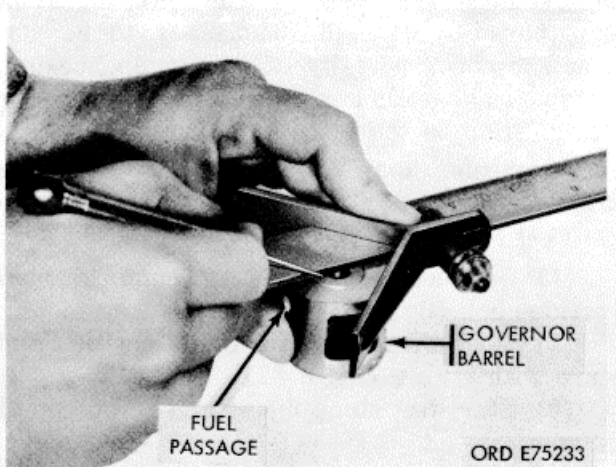

Figure 3-85. Scribing governor barrel.
(4) To locate a new governor barrel in the housing, scribe a center line on barrel and housing, lining up the fuel passages to prevent fuel flow restriction (fig. 3-85).
(5) Heat housing in oven to 300 degrees Fahrenheit.
(6) Cool barrel in dry ice or by another suitable method.
(7) Coat new governor barrel with high pressure lubricant.
(8) Place governor barrel in housing bore lining up scribe marks, then press barrel into housing with arbor press.
(9) Select new governor plunger and fit it in barrel. If plunger enters try larger size plunger. If the larger size plunger fits loosely in bore, replace barrel and plunger.